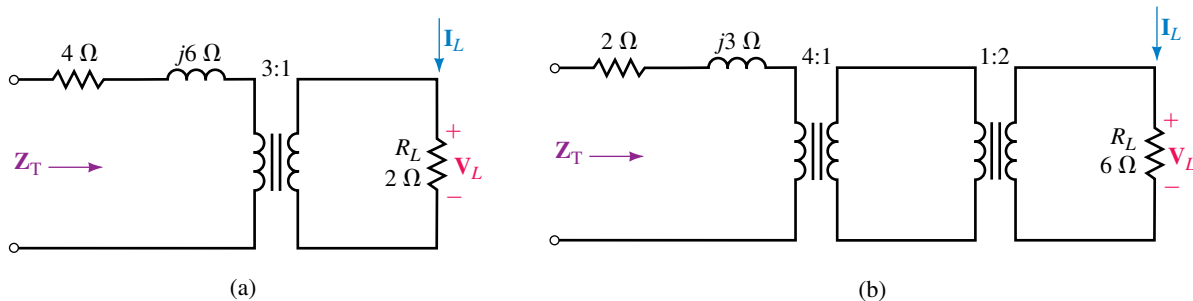

FIGURE 24–73
15. For each circuit of Figure 24–73, determine \mathbf{Z}_T .
16. For each circuit of Figure 24–73, if a generator with $\mathbf{E}_g = 120 \text{ V} \angle -40^\circ$ is applied, determine the following: